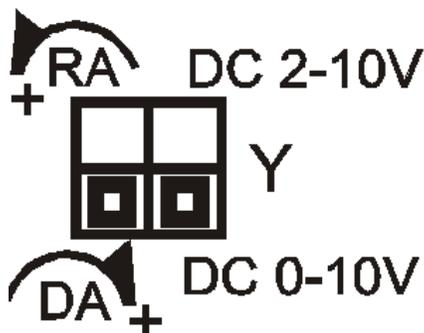

Figure 13: VA9104-GGA Factory Switch Setting
For Reverse Acting (RA) operation, a minimum control signal drives the actuator to the full CW position and a maximum signal drives the actuator to the full CCW position. To change the factory settings, remove the actuator cover and adjust the switches on the circuit board as shown in Figure 13.